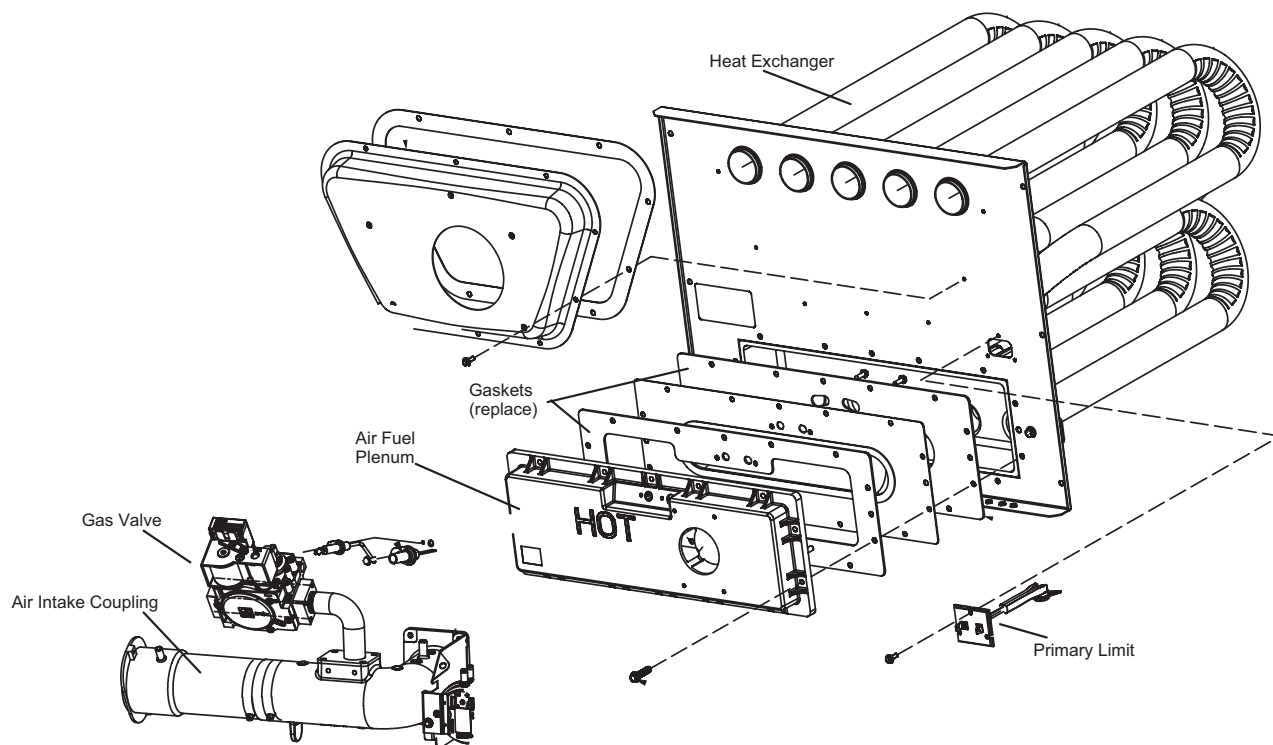

FIGURE 27
- 10 - To clean burner, remove from the air gas plenum and run a vacuum cleaner over the face of burner. Visually inspect inside the burner for any blockage caused by foreign matter. Remove any blockage. FIGURE 27 shows burner detail. **Replace gasket between burner plate and air fuel plenum then re-install burner plate.**